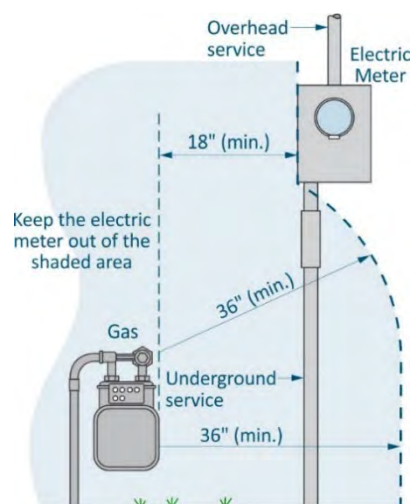

Figure 10 Separation Between Electric and Gas
**Residential installations.** All electric devices, including meters and pad-mounted transformers, must be separated from a gas meter by at least 36 inches in any direction. An electric meter also requires 18 inches horizontal separation from the gas meter; see Figure 10.